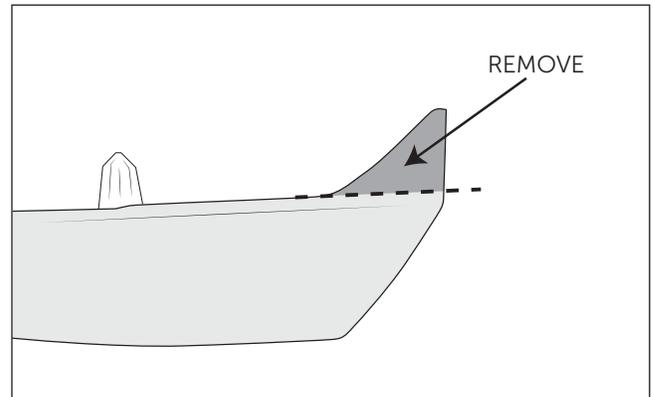

Figure 22
- B. Trim the front edge of the fender flares to sit flush (fig. 22).